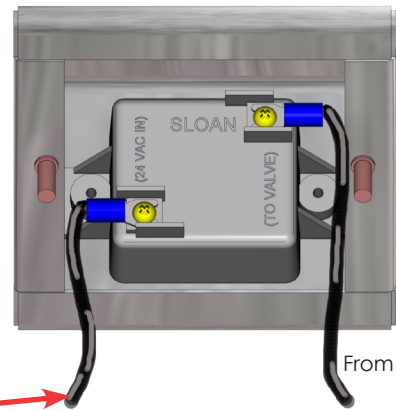

Fig. 13: Connect 2 wires - right IR sensor
11. Reconnect the 2 wires of the right IR sensors as shown (Fig. 13).